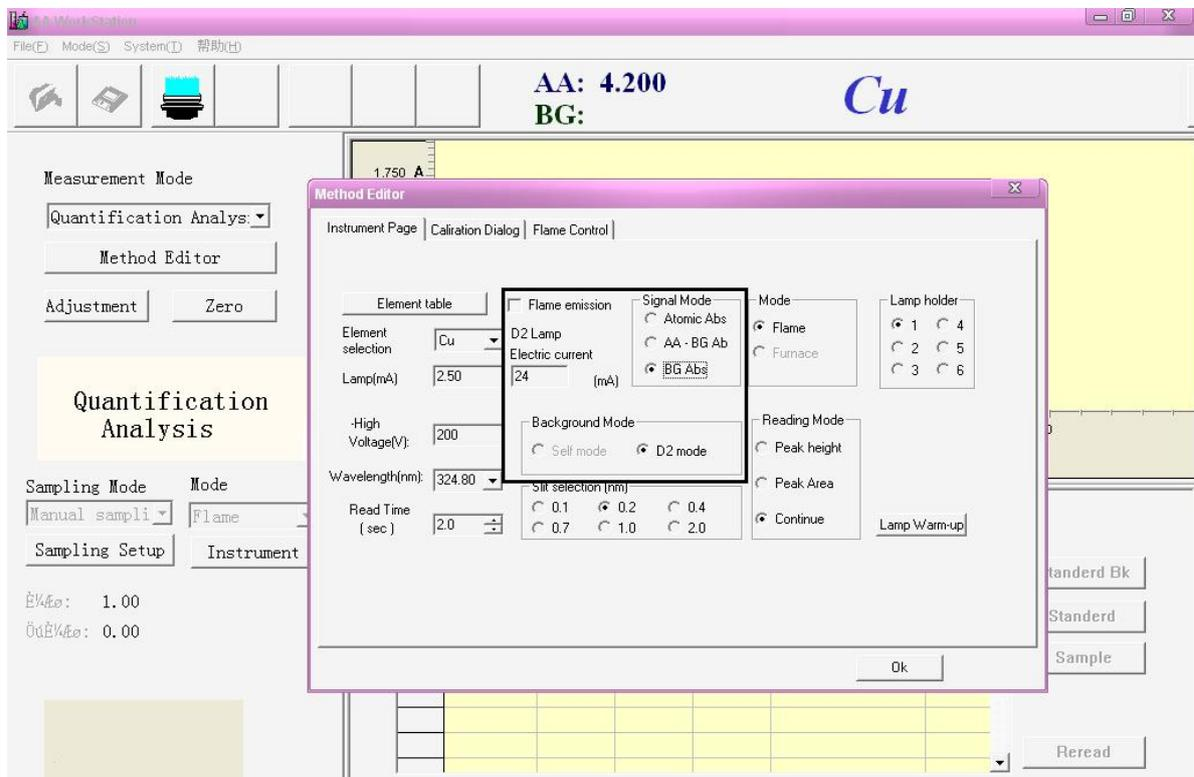

Figure 4-21
c. Select the "BG Abs", the "Flame emission" and "D2 mode" are valid, "Self mode" is gray (as shown in Figure 4-21)